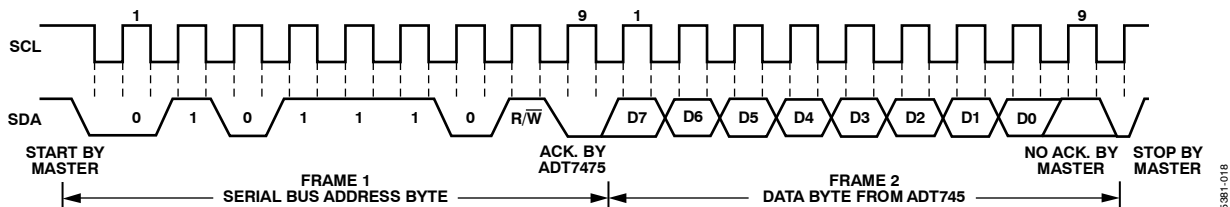

Figure 16. Reading Data from a Previously Selected Register
A read operation is then performed consisting of the serial bus address; the R/W bit set to 1, followed by the data byte read from the data register (see Figure 16).
- If the address pointer register is known to be already at the desired address, data can be read from the corresponding data register without first writing to the address pointer register (see Figure 16).